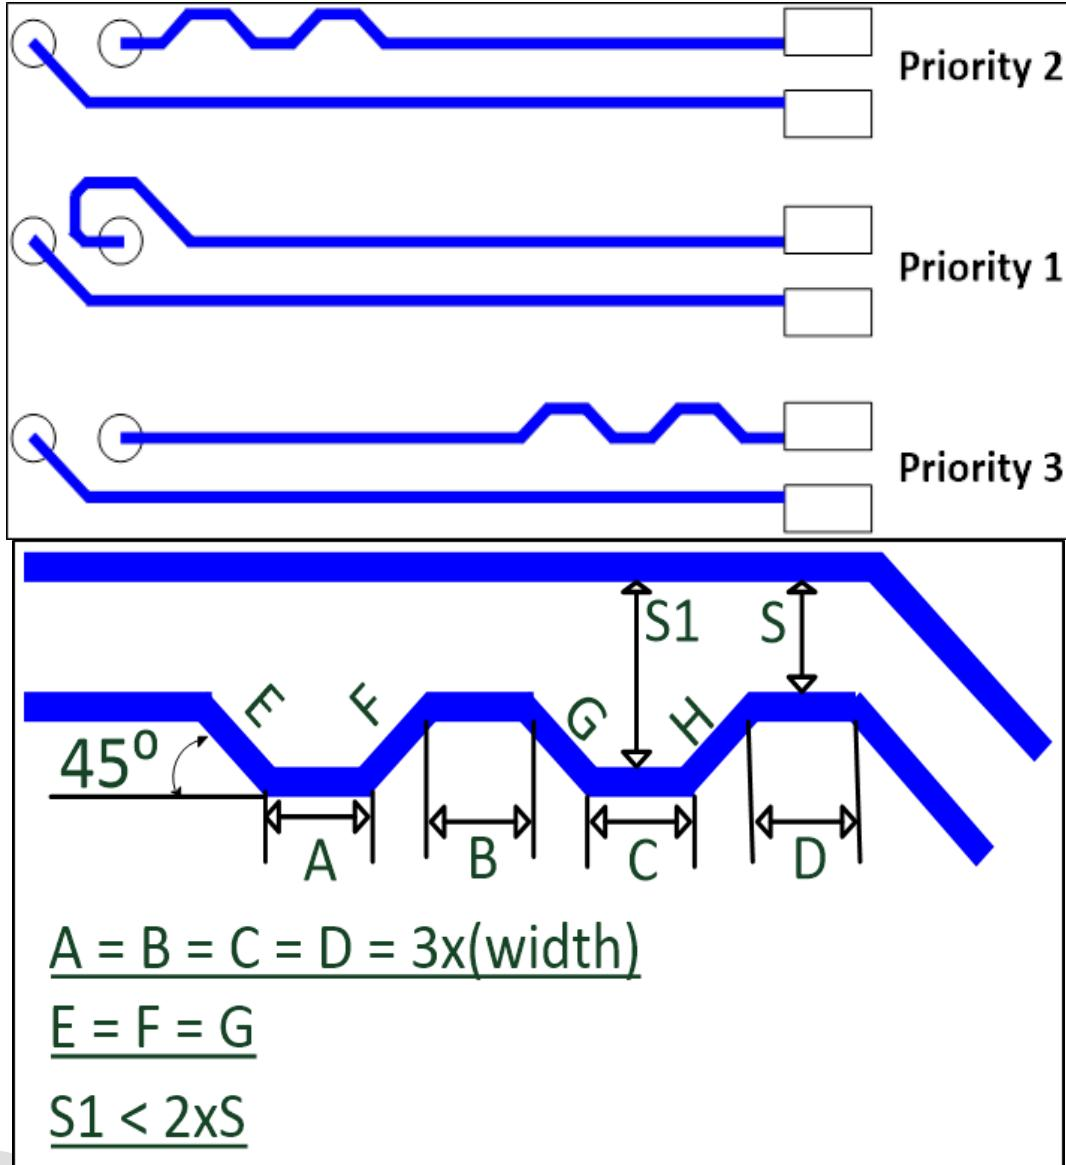

Figure 36: Method of TRACE Length Mismatch
1. Proceed the length matching close to where the length mismatch occurs, and use the back-jog routing rather than the serpentine routing, as shown in Figure 36.